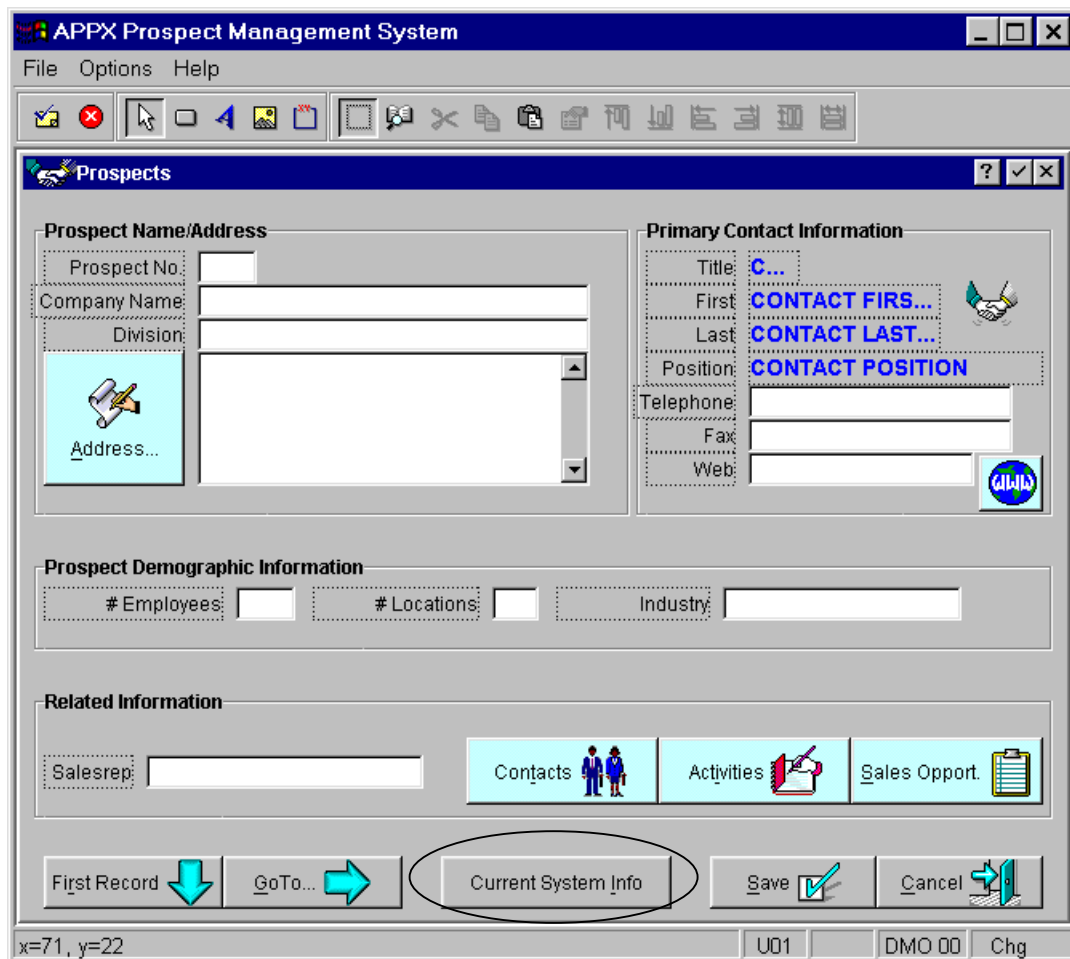

Figure E3.22 – Prospect Maintenance screen with new button
- You are returned to the Prospects screen. Now **adjust your new button size and position** to suit your requirements. Note that you can **right-click on one of the other buttons on the screen**, select **Object Properties**, and investigate how other designers have defined buttons on this image. Your final image should look something like the image in *Figure E3.22*.